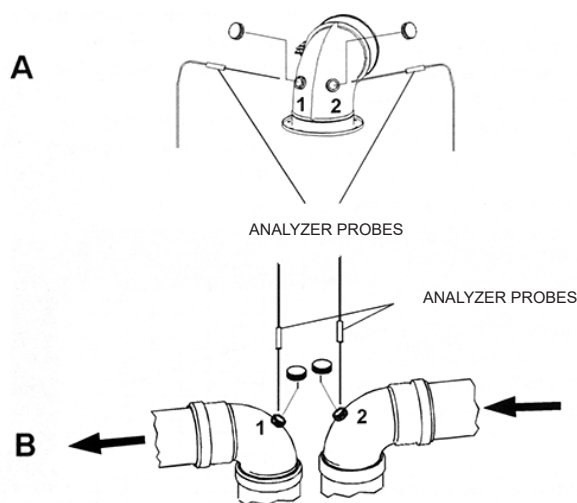

Fig. 18 Examples of flue gas testing points
- assess combustion air temperature from opening 1 (see ref. (A) Fig. 18 Examples of flue gas testing points , for sealed chamber boilers provided with pipes with preset holes).
- assess flue gas temperature and CO2 quantity from no. 2 opening (see ref. (A) Fig. 18 Examples of flue gas testing points , for sealed chamber boilers provided with pipes with preset holes).
- assess combustion air temperature from opening 2 (see ref. (B) Fig. 18 Examples of flue gas testing points , for sealed chambers provided with pipes with preset holes).
- assess flue gas temperature and CO2 quantity from no. 1 opening (see ref. (B) Fig. 18 Examples of flue gas testing points , for sealed chamber boilers provided with pipes with preset holes).